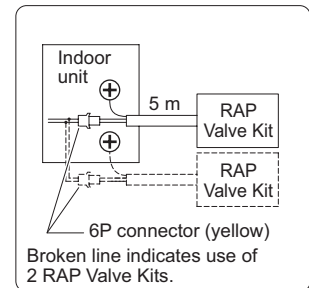

Fig. 2-278
- Put the 6P connector from the RAP Valve Kit through the power inlet and connect it to the 6P connector (yellow). (See Fig. 2-278)